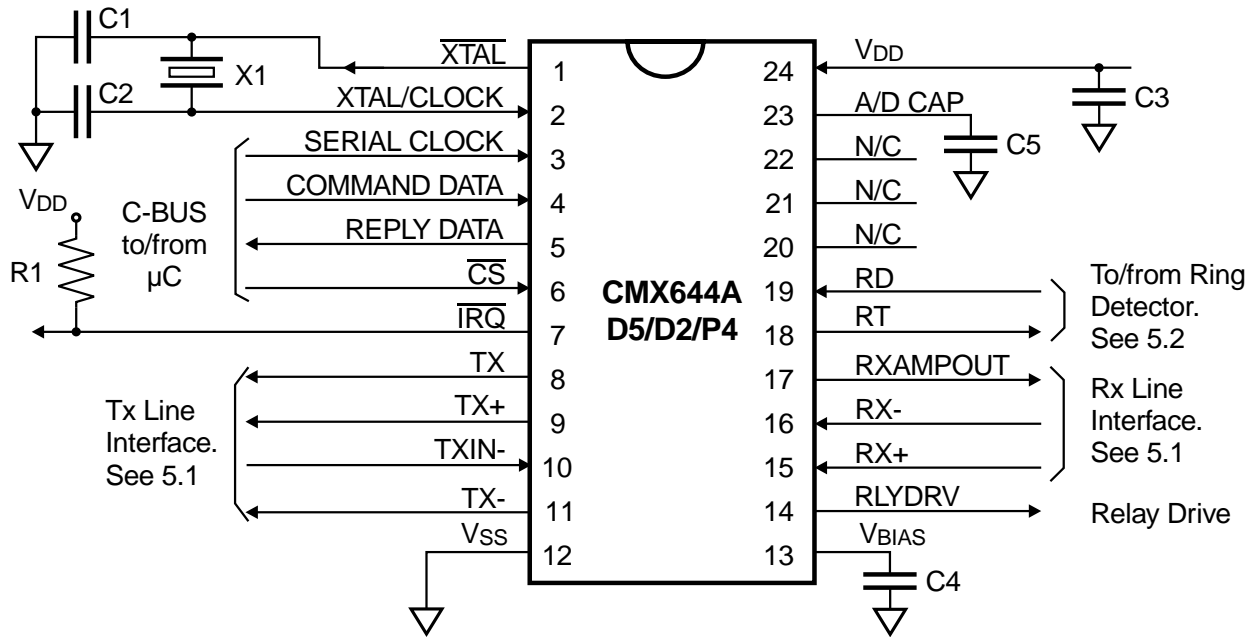

Figure 2: Recommended External Components
2. Frequency and timing accuracy of the CMX644A is determined by the clock present at the XTAL/CLOCK pin. This may be generated by the on-chip oscillator inverter using the external components C1, C2 and X1 of Figure 2, or may be supplied from an external source to the XTAL/CLOCK input. If the clock is supplied from an external source, C1, C2 and X1 should not be fitted.